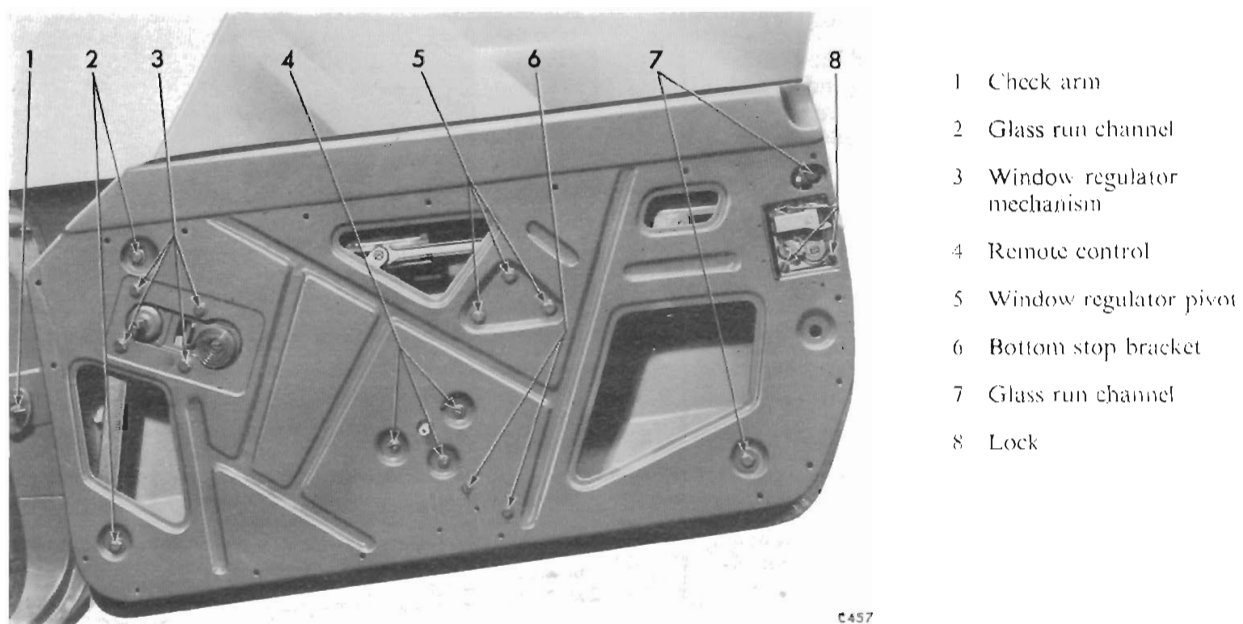

Fig. 58. Location of component fixings (Spitfire)
**Window Regulating Mechanism****To Remove** (Fig. 58 and 59)